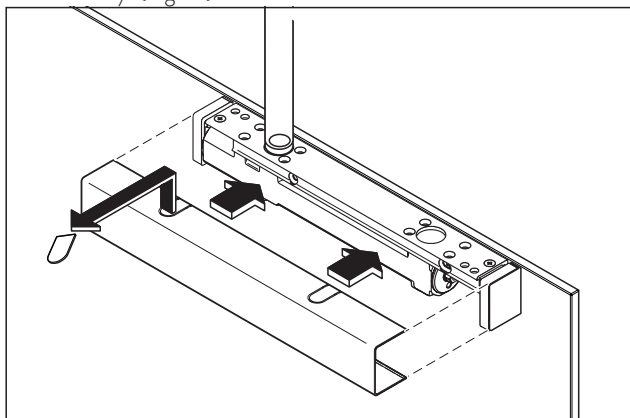

Fig. 15 Mount the cover plate
3. Prepare the cladding for mounting and attach it to the assembly. (Fig. 15)